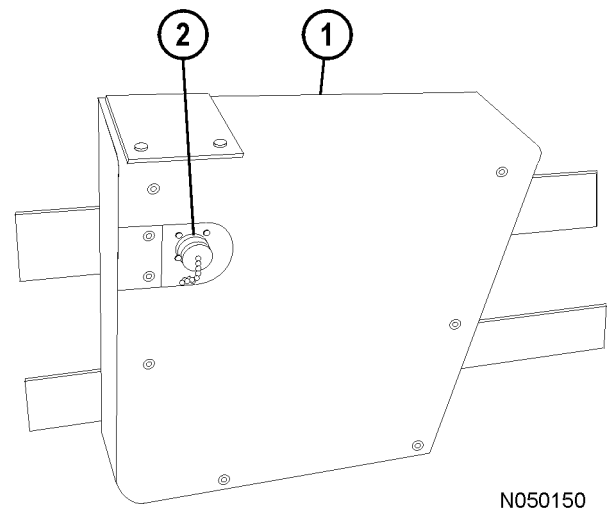

FIGURE 32-9. PAYLOAD METER
This connector (2, Figure 32-9) is used with a special cable to allow the Payload Meter (1) to communicate with a Portable Computer.